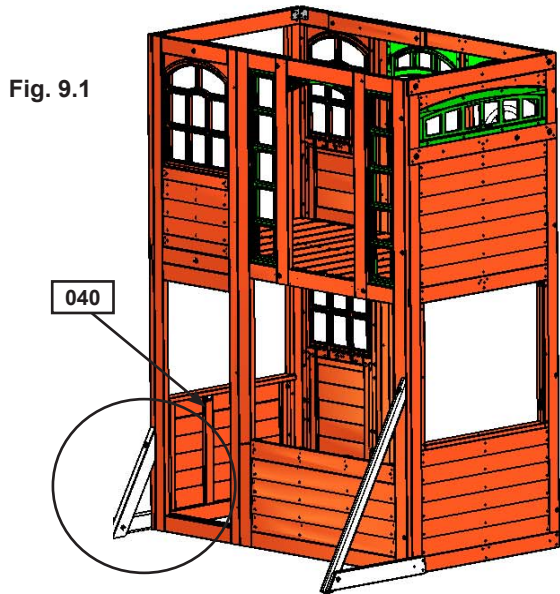

Fig. 9.1
A: Loosely attach (090) SW Ground to (091) Diagonal with 1 (WB9) 5/16 x 2-1/8" Wafer Bolt (with flat washer and t-nut) then place (091) Diagonal tight and flush to the front of (040) Slide End Panel. (090) SW Ground to be flush to the bottom of (040) Slide End Panel. (fig. 9.1 and 9.2)
B: Pre-drill pilot hole with a 3/16" drill bit then attach (091) Diagonal to (040) Slide End Panel with 1 (WL5) 1/4 x 2-1/2" Wafer Lag (with flat washer), checking that it remains flush to outside edge. (fig. 9.1 and 9.2)
C: Making sure bottom of (090) SW Ground is flush to bottom of (040) Slide End Panel then attach with 2 (S11) #8 x 2" Wood Screws and 1 (S4) #8 x 3" Wood Screw then tighten the bolt. (fig. 9.1 and 9.2)